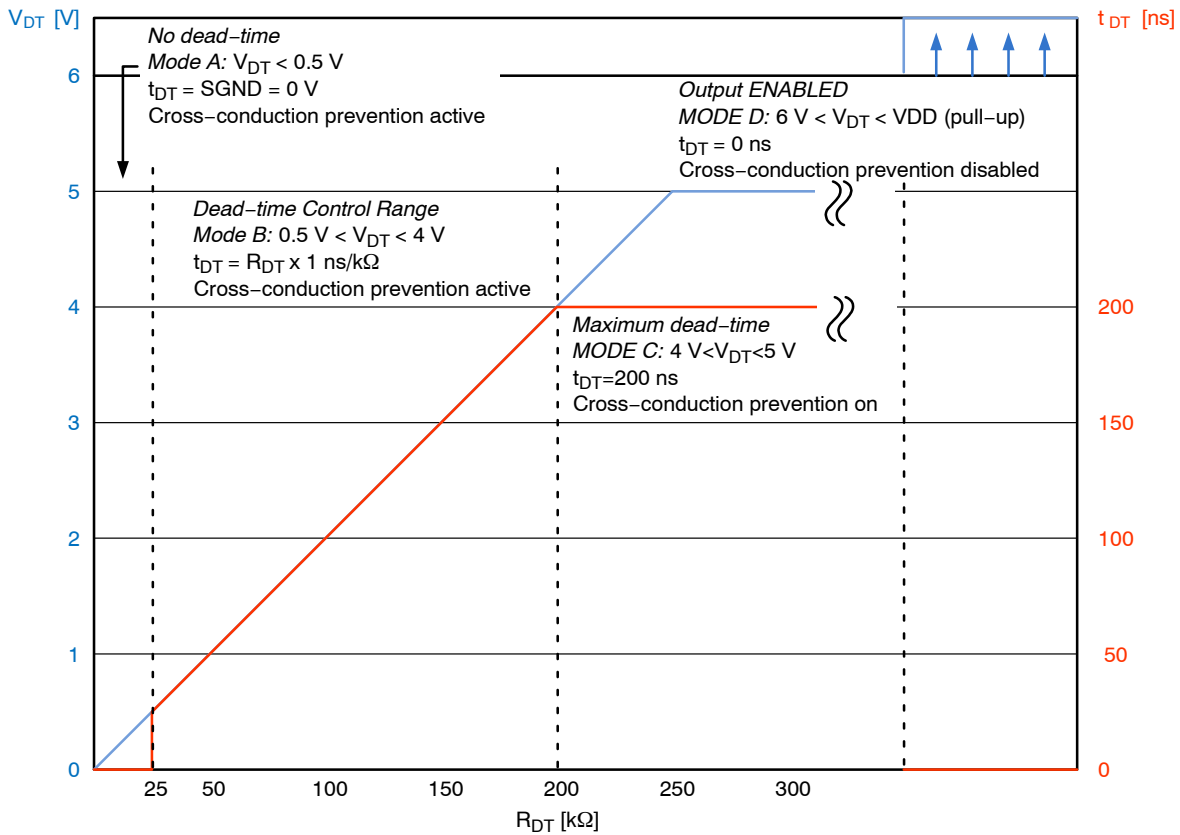

Figure 29. Dead-Time Control,  $t_{DT}$ ,  $V_{DT}$  vs  $R_{DT}$
*Connect a  $25 \text{ k}\Omega < R_{DT} < 200 \text{ k}\Omega$  Resistor from DT to SGND;* Dead-time is programmable by a single resistor connected between the DT and SGND pins. The amount of desired dead-time can be programmed via the dead-time resistor,  $R_{DT}$ , between the range of  $25 \text{ k}\Omega < R_{DT} < 200 \text{ k}\Omega$  to obtain an equivalent dead-time, proportional to  $R_{DT}$ , in the range of  $25 \text{ ns} < t_{DT} < 200 \text{ ns}$ . If either edge between HIN and LIN result in a dead-time less than the amount set by  $R_{DT}$ , the set DT value shall be dominant. If either edge between HIN and LIN result in a dead-time greater than the amount set by  $R_{DT}$ , the controller dead-time shall be dominant. The control voltage range,  $V_{DT}$ , for  $R_{DT}$  is  $0.5 \text{ V} < V_{DT} < 4 \text{ V}$ . DT programmability is summarized and shown graphically in Figure 29.
*Connect a  $249 \text{ k}\Omega$  Resistor from DT to SGND;* Connect a  $249 \text{ k}\Omega$  resistor between DT and SGND to program the maximum dead-time value of 200 ns. The control voltage range,  $V_{DT}$ , for assuring  $t_{DT} = 200 \text{ ns}$  is  $4 \text{ V} < V_{DT} < 5 \text{ V}$ . DT programmability is summarized and shown graphically in Figure 29.
*Connect DT to VDD;* When the DT pin voltage,  $V_{DT}$ , is greater than 6 V (pulled up to VDD through  $10 \text{ k}\Omega$  resistor), anti-cross-conduction protection is disabled, allowing the output signals to overlap. This operating mode is suitable for applications where it is desired to have both driver output stages switching simultaneously. If choosing this operating mode while driving a half-bridge power stage, extreme caution should be taken, as cross conduction can potentially damage power components if not accounted for. This type of dead-time control is preferred when the controller will be making extremely accurate dead-time adjustments and can respond to the potential of over-current faults on a cycle-by-cycle basis. DT programmability is summarized and shown graphically in Figure 29.